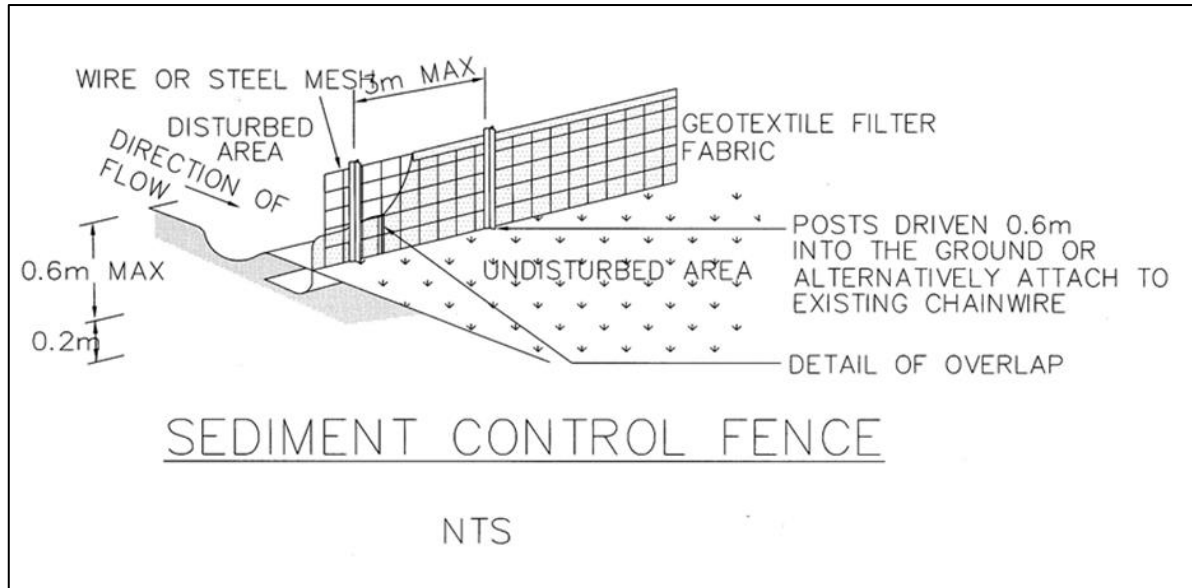

Figure 7.1: Sediment Control Fence Detail
- Geotextile fabric buried to a maximum of 150mm below the surface. Refer to Figure 7.1 for details;
Refer to Figure 7.1 for details.